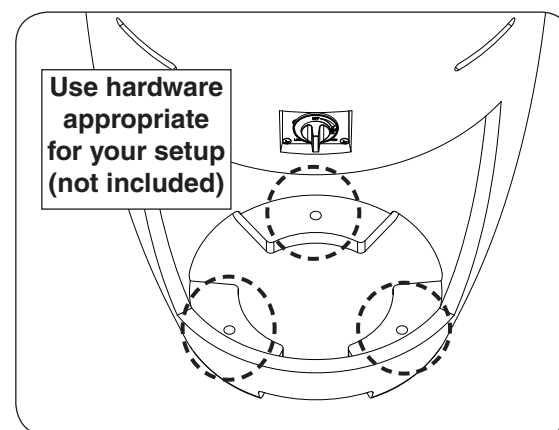

Fig. 15-4 Mount urn to floor
2. Using appropriate mounting hardware for the floor material/construction, secure the urn into the floor. The interior of the urn has three  $\frac{1}{2}$ " holes that will allow for the urn to be fastened to the floor. See Fig. 15-4.